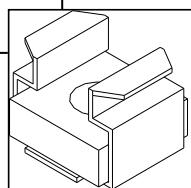

Figure 23: Square Bolt
There are two (2) leveling legs and they can be found inside the manual bag. Each leveling leg consists of a long bolt, a hex nut, a washer, and a square bolt with clip (see Figure 23). For installation of the leveling legs the unit should be on its back and a 1/2" wrench is required for adjustments.